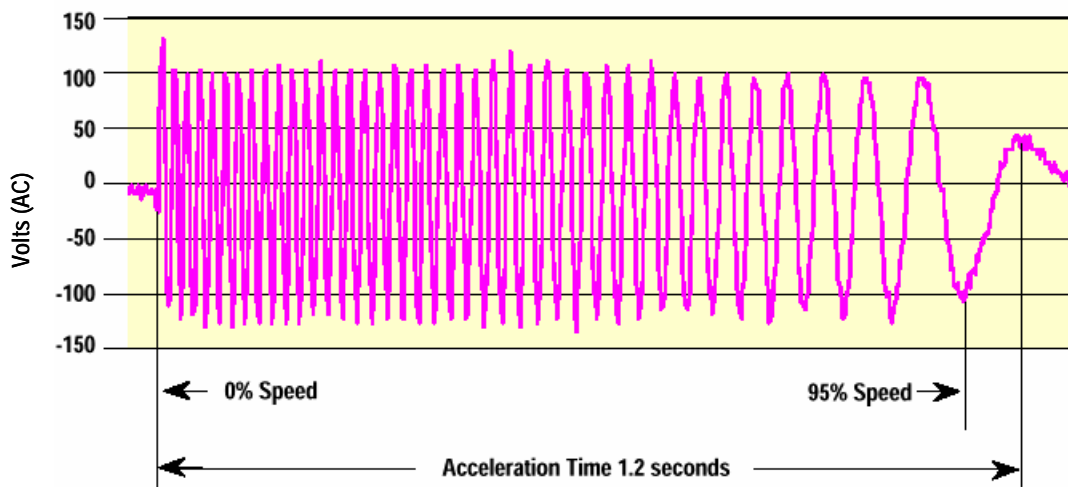

Figure 3.2 – Sample Strip Chart Recording
- 9) The strip chart printout (or captured waveform on oscilloscopes) should show voltage readings between 0% speed and 95% speed, the point of motor synchronization. It should also show the normal acceleration time of the motor. Conduct a few test runs to determine the best use of the chart width to obtain accurate results. Ensure that time and voltage scales are indicated on the printout (see Figure 3.2). Do not exceed the starting duty of the motor.
- 11) The waveform provides the induced current values at 0% and 95% speed, but further calculations are required to obtain the RMS value. Follow the example below and reference Figure 3.2 to determine the I_0 and I_{95} Amps rms.
EXAMPLE: (Refer to Figure 3.2)